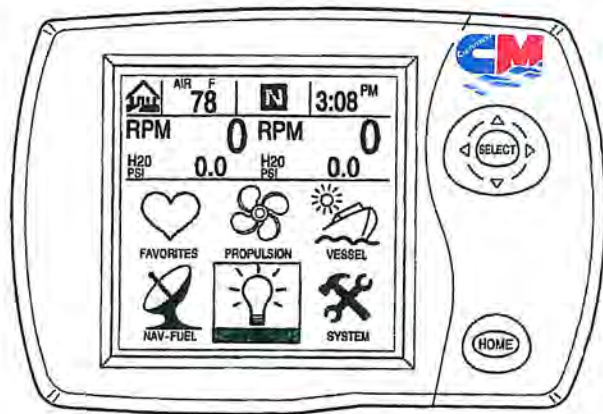

Fig. 1
- 1) Verify the Start battery is on and then turn the key switch on. The diesel view should power on and after hitting the HOME button should look like the menu in fig 1.